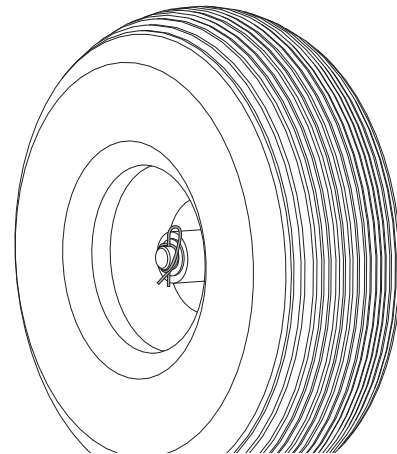

Figure 4
6. On the other side of the axle install a wheel washer and rue ring locking pin, Figure 4.